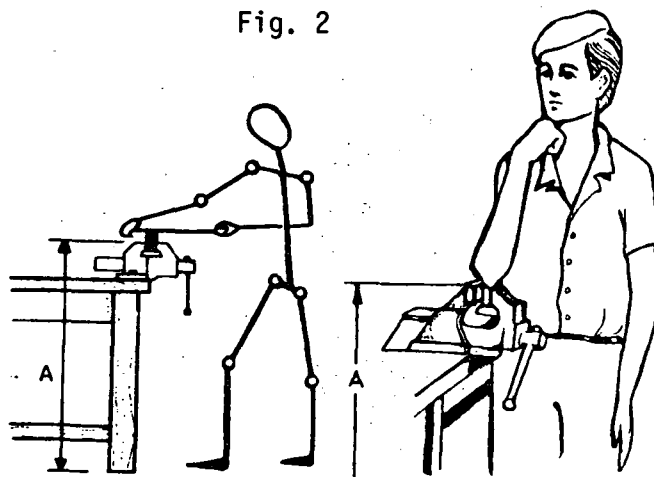

Fig. 3
1. Before clamping the workpiece see that the vice is at the proper working height (Fig. 3). If necessary, stand on a firm stool or platform, or look for another vice to use.